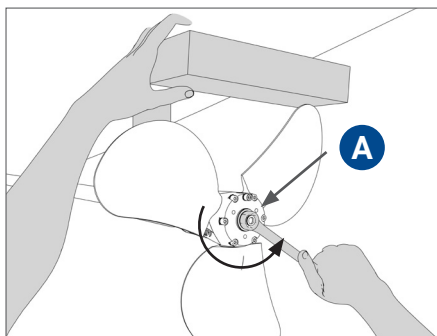

FIG. 35 Unscrew lock nut "A"
- Ensure that the propeller shaft cannot rotate by engaging the gear when the engine is switched off or by locking the shaft. To avoid bending the propeller blades during unscrewing, make sure you turn the blades in the thrust position (not in the feathering position), and lock the rotation with a wooden wedge, to be placed between the blade and the hull. (Fig. 35).
- Unscrew the lock nut **A** counterclockwise (Fig. 35); during unscrewing, the propeller will automatically come out from the cone of the propeller shaft or the Sail-Drive shaft.